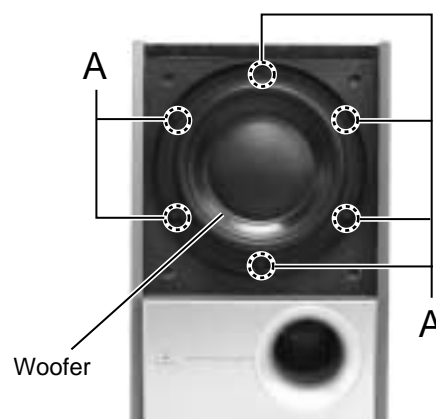

Fig.3
■ Removing the woofer (See Fig.3, 4)